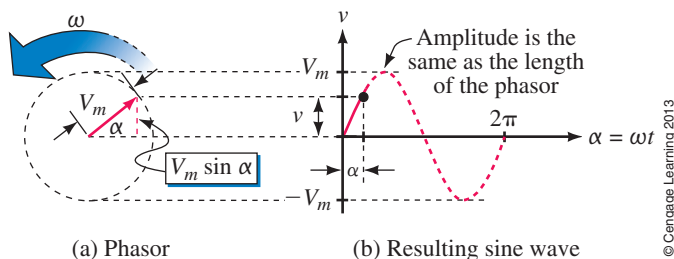

FIGURE 15–34 As the phasor rotates about the origin, its vertical projection creates a sine wave. (Figure 15–35 illustrates the process.)
- Same as Figure 15–31(a) with $V_m = 10 \text{ V}$, $\theta = 20^\circ$.
- Same as Figure 15–31(b) with $I_m = 80 \text{ A}$, $\theta = 50^\circ$.
- Same as Figure 15–39(b) except use $I_m = 50 \text{ A}$ instead of V_m .
A **phasor** is a rotating vector whose projection on a vertical axis can be used to represent sinusoidally varying quantities. To get at the idea, consider the red line of length V_m shown in Figure 15–34(a). (It is the phasor.) The vertical projection of this line (indicated in dotted red) is $V_m \sin \alpha$. Now, assume that the phasor rotates at angular velocity of $\omega \text{ rad/s}$ in the counterclockwise direction. Then, $\alpha = \omega t$, and its vertical projection is $V_m \sin \omega t$. If we designate this projection (height) as v , we get $v = V_m \sin \omega t$, which is the familiar sinusoidal voltage equation.
If you plot a graph of this projection versus α , you get the sine wave of Figure 15–34(b). Figure 15–35 illustrates the graphing process—see Note.